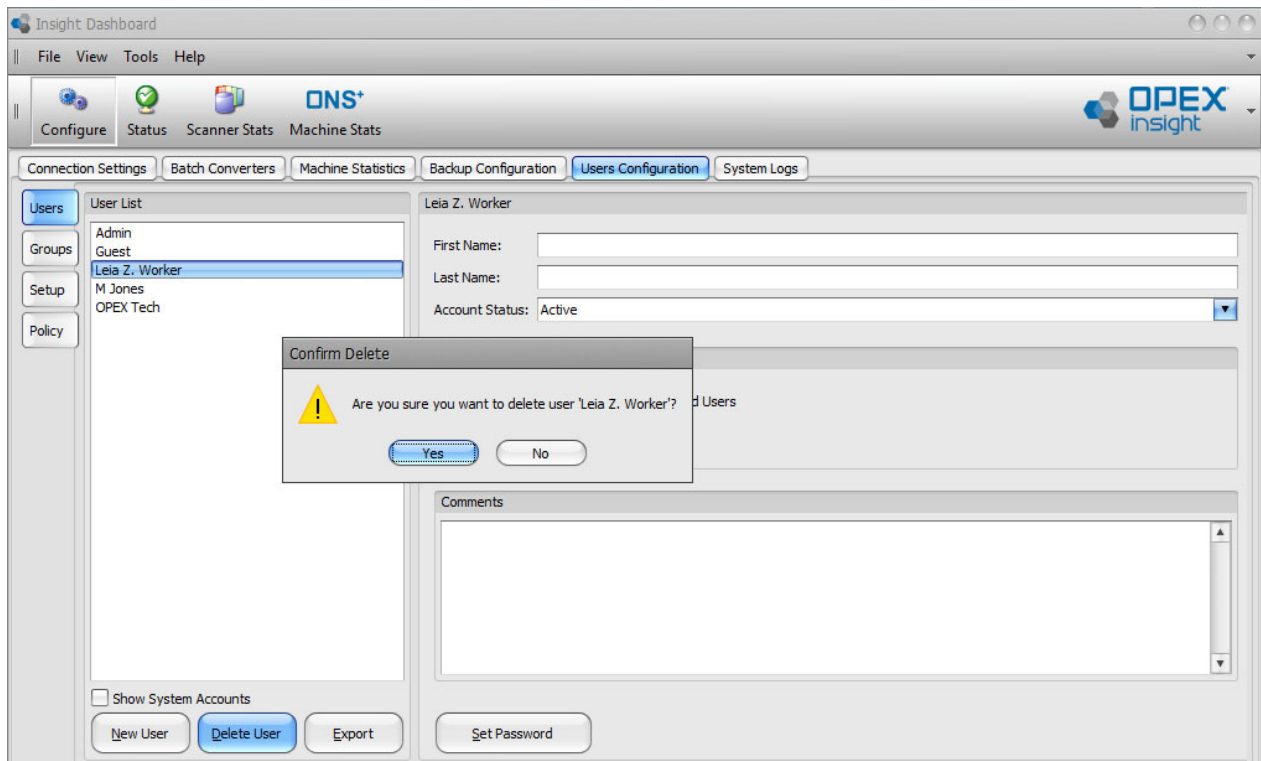

Figure 2-9: Confirm Delete window
3. Click the **Delete User** button. The Confirm Delete window appears (Figure 2-9).